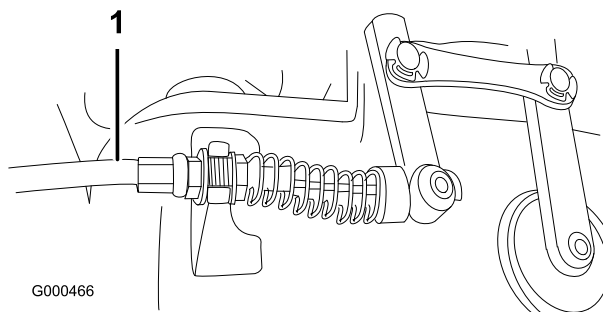

Figure 43
2. To increase cable tension, loosen front cable jam nut and tighten back cable jam nut (Figure 43) (located on top of gear box) until the reel cable force adds 7 to 10 lbs. of additional handle force measured at the control knob.